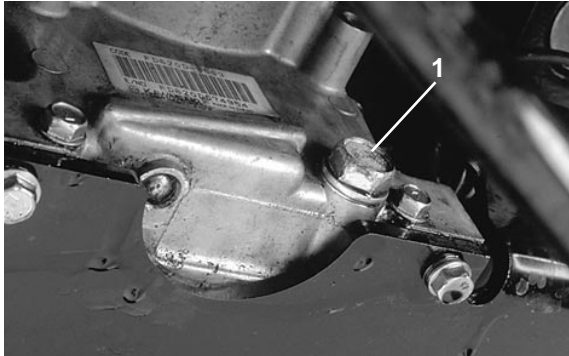

Figure 21
2. Set a drain pan under the oil pan and in line with the drain plug (Fig. 21).